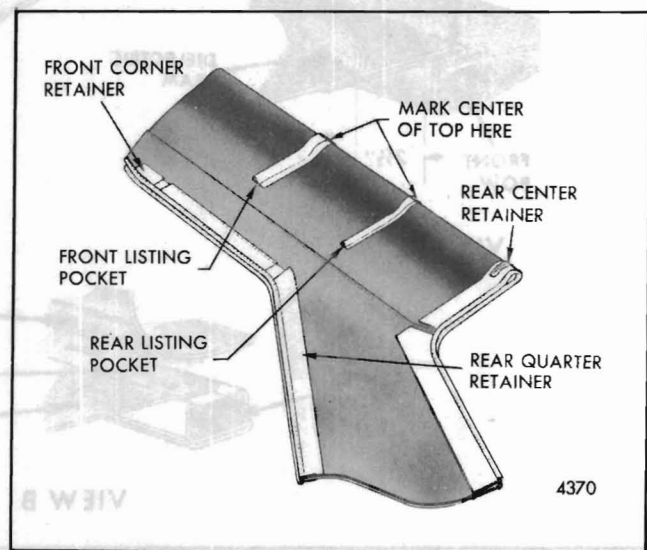

Fig. 12-Determining Center of Top Cover
5. Fold replacement top cover assembly in half as shown in Figure 12. Determine precise centerline of top cover and carefully mark center of top cover on listings for center bow and front bow as shown in illustration.
3. Fold replacement top cover in half as shown in Figure 12. Determine precise centerline of top cover and carefully mark center of top cover on listings for center bow and front bow as shown in illustration.